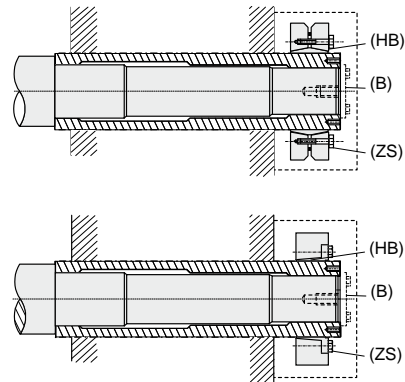

Fig 12 Full mounted position
The shrink disc has a keyless shrink fit mechanism which shrinks hub (HB) mechanically through the tightening locking bolt (ZS), and holds shaft and hub as one fixture. (Fig. 12)